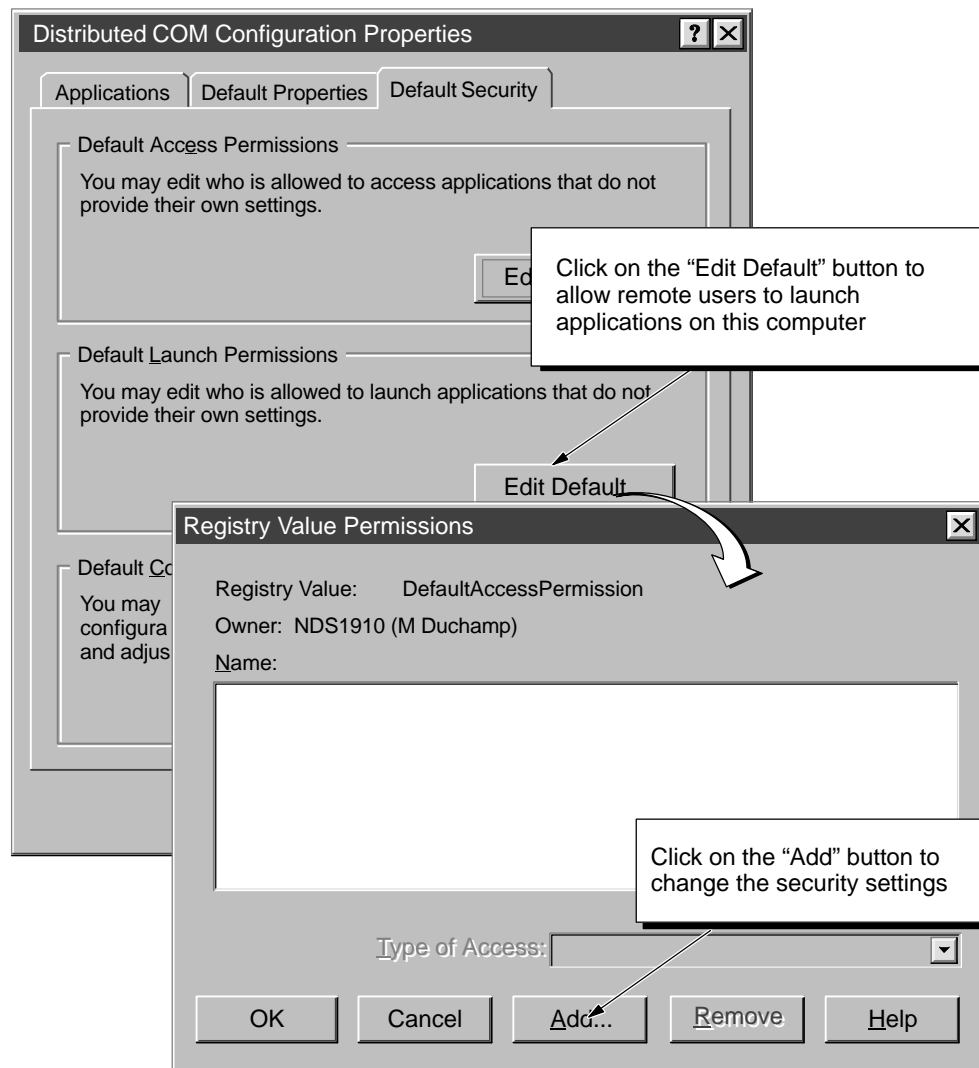

Figure E-7 Configuring the Default Launch Permissions for DCOM
1. Click on the “Edit Default” button for “Default Launch Permissions” to display the “Registry Value Permissions” dialog box. See Figure E-7.